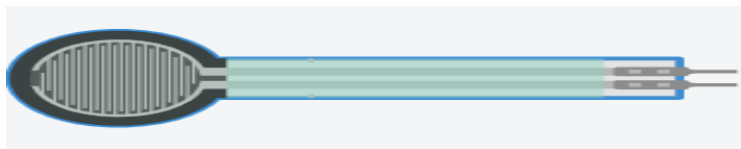

Fig.1: Force sensor
1. **Force Sensor:** Definition, principle, Category, and connection with Microcontrollers, see Fig.1.